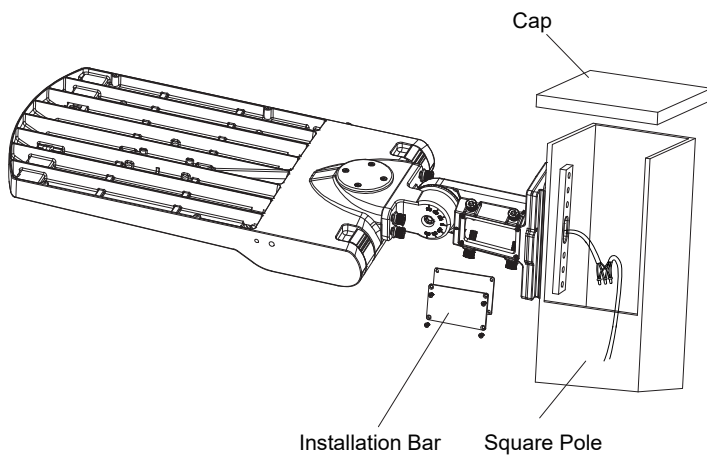

Figure 1
Step 1: Attach Universal Mount to square pole with bolt. (Figure 1)